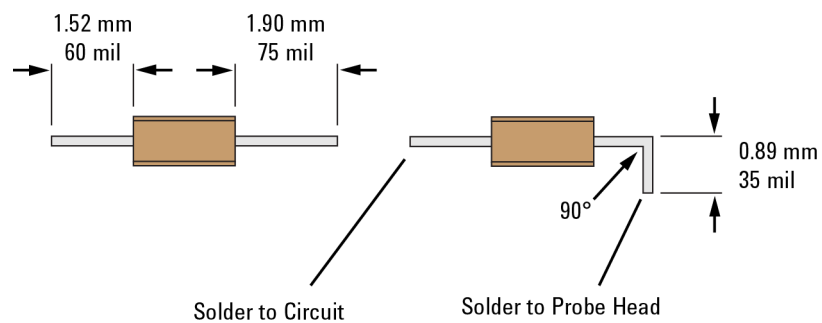
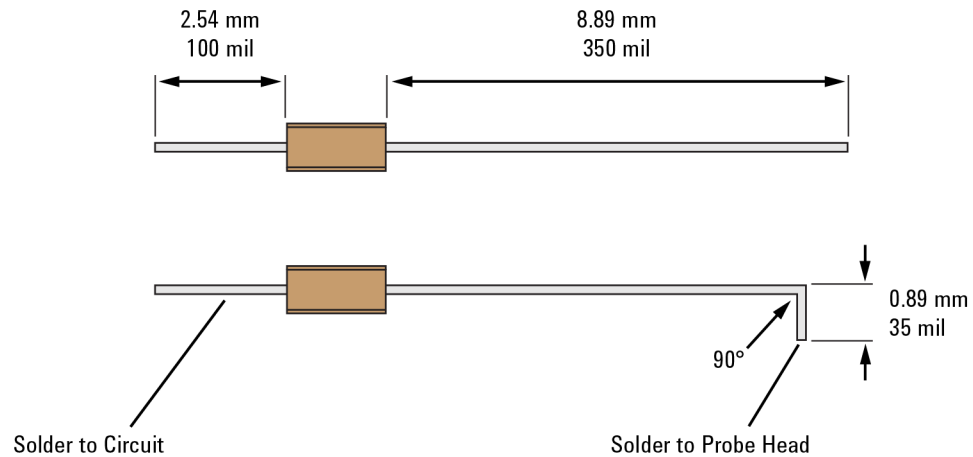

Figure 47 91Ω and 0Ω Combination Resistor Trim Dimensions
Figure 48 150Ω and 0Ω Combination Resistor Trim Dimensions
- 9 Using another pair of tweezers, bend the 1.90 mm or 8.89 mm lead 90° as shown in **Figure 47** and **Figure 48**.